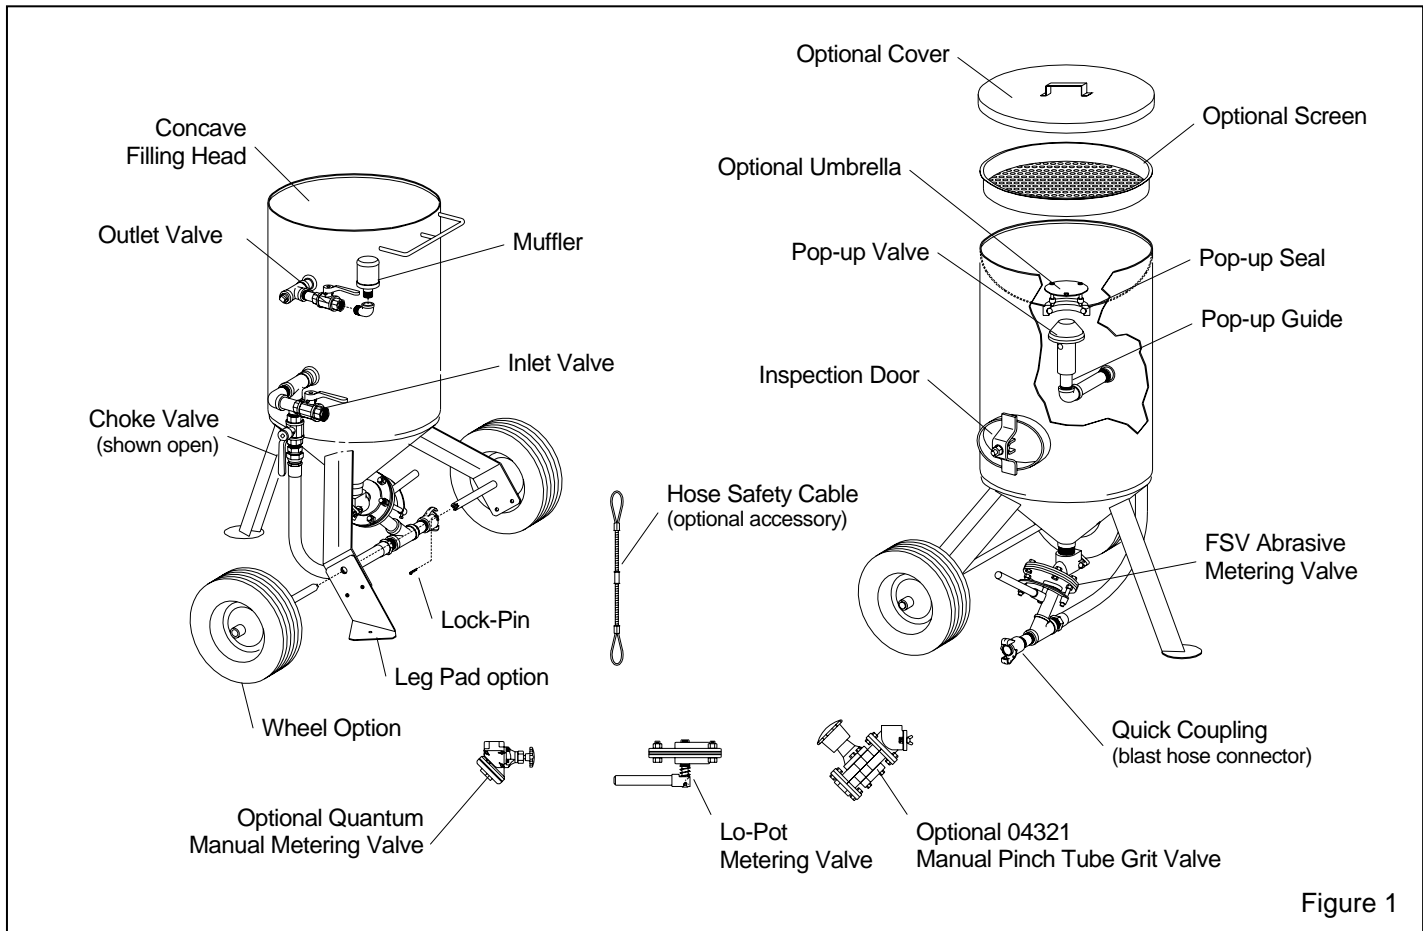

Figure 1
1.3.1 The primary components of the blast machine are shown in Figure 1.
Clemco supplies an exhaust muffler with all blast machines of 2 cu. ft. capacity and larger. The muffler reduces exhaust noise and prevents abrasive from exhausting upward or sideways into the air. When the blast machine is depressurized, the muffler body pops up to diffuse the air and abrasive. When the machine is fully depressurized, the muffler body drops, permitting trapped abrasive to empty. For the muffler to work properly, it must be installed with the body facing up, as shown in Figure 1.